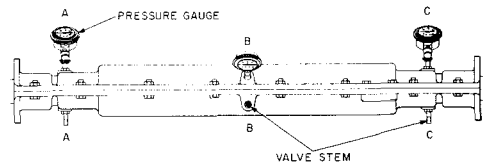

Fig. 24—Valve and Gauge Placement
**4.01** Flash testing is done after closing and sealing the splice, using the flash testing material approved for use with the type of cable sheath involved. Place gauges and valve stems on the cases as shown in Fig. 24.